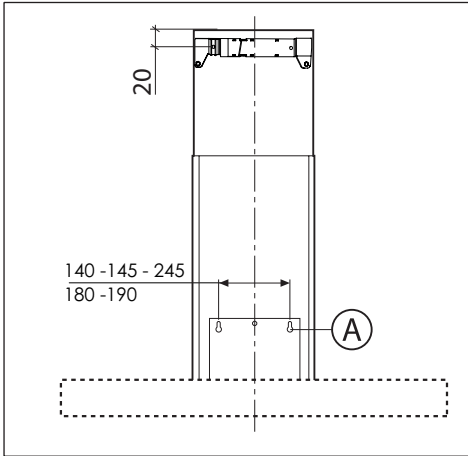
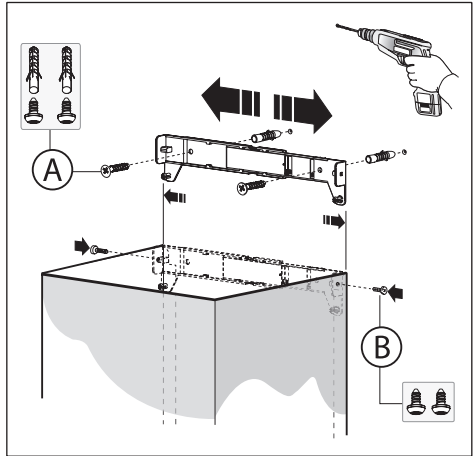
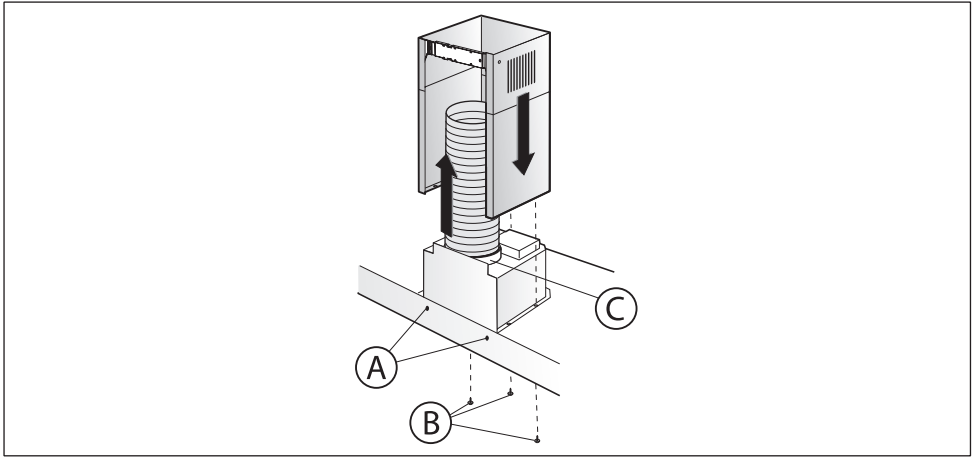

Fig.2
Fig.3
Fig.4
-Drill the holes **A** respecting the distances indicated (Fig.2).
-When the appliance has been adjusted, definitely fix the hood using the screws **A** (Fig.4).
-Adjust the width of the support bracket of the upper flue (Fig.3).
-Then fix it to the ceiling using the screws **A** (Fig.3) in such a way that it is in line with your hood and respecting the distance from the ceiling indicated in Fig.2.
-Connect the flange **C** to the air exhaust hole using a connection pipe (Fig.4).
-Fix the lower flue to the hood using the screws **B** provided (Fig.4), extract the upper flue up to the bracket and fix it with the screws **B** (Fig.3).